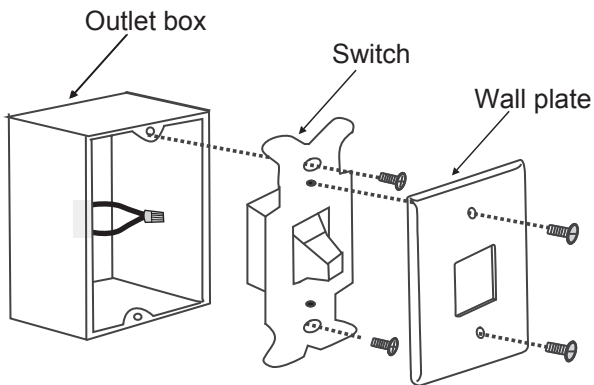

Fig. 22
**Step 1.** Remove the existing wall plate and the old switch from the wall outlet box. Wire nut the **BLACK** leads (hot) together and push back inside the outlet box. (Fig. 22)